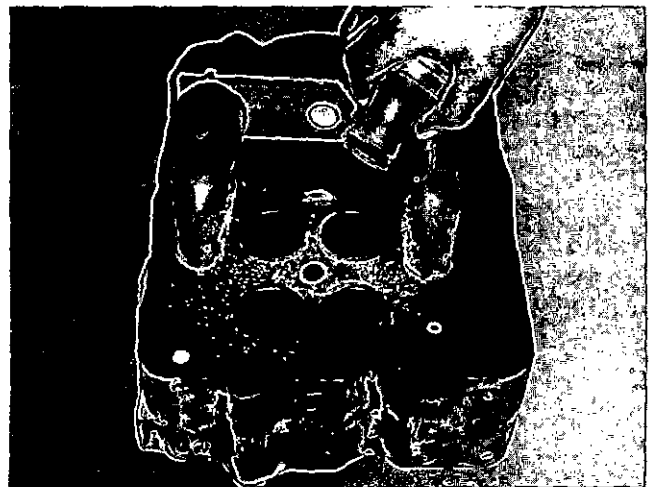

Fig. 2-7 (N10279). Check The Cylinder Head For Cracks.
3. Use the powder bulb to spray the powder on the area to be inspected. Use compressed air with low pressure to remove excess powder from the area. The remainder of the powder will be in the cracks and will show as a white line, Fig. 2-7.